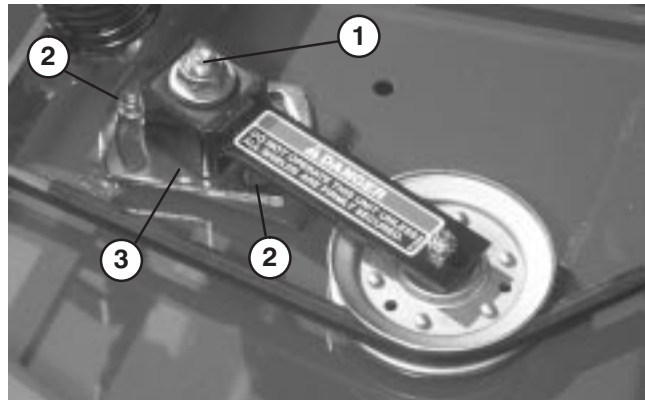

Figure 35
ADJUSTING IDLER PULLEY (Fig. 35)
3. Loosen two nuts securing idler plate in place. Using a socket and torque wrench, tighten the idler adjusting nut to 35-40 ft-lb. (Fig. 35).